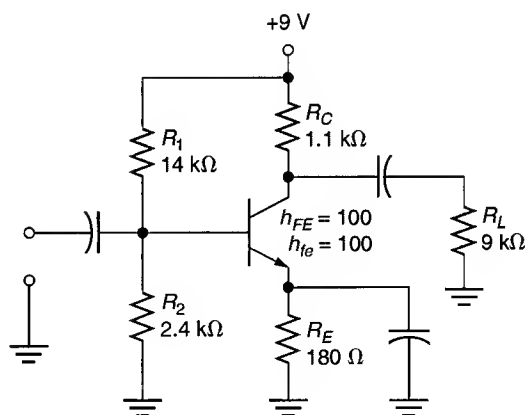

FIGURE 9.33
12. Derive the ac equivalent circuit for the amplifier shown in Figure 9.33. Include all component values.
22. Determine the value of A_v for the amplifier in Figure 9.33.
28. Determine the value of A_p for the circuit shown in Figure 9.33. Assume that the circuit has a value of $A_i = 7.5$.
34. Calculate the open-load voltage gain for the circuit shown in Figure 9.33.
38. Determine the values of $Z_{in(base)}$ and Z_{in} for the amplifier in Figure 9.33.